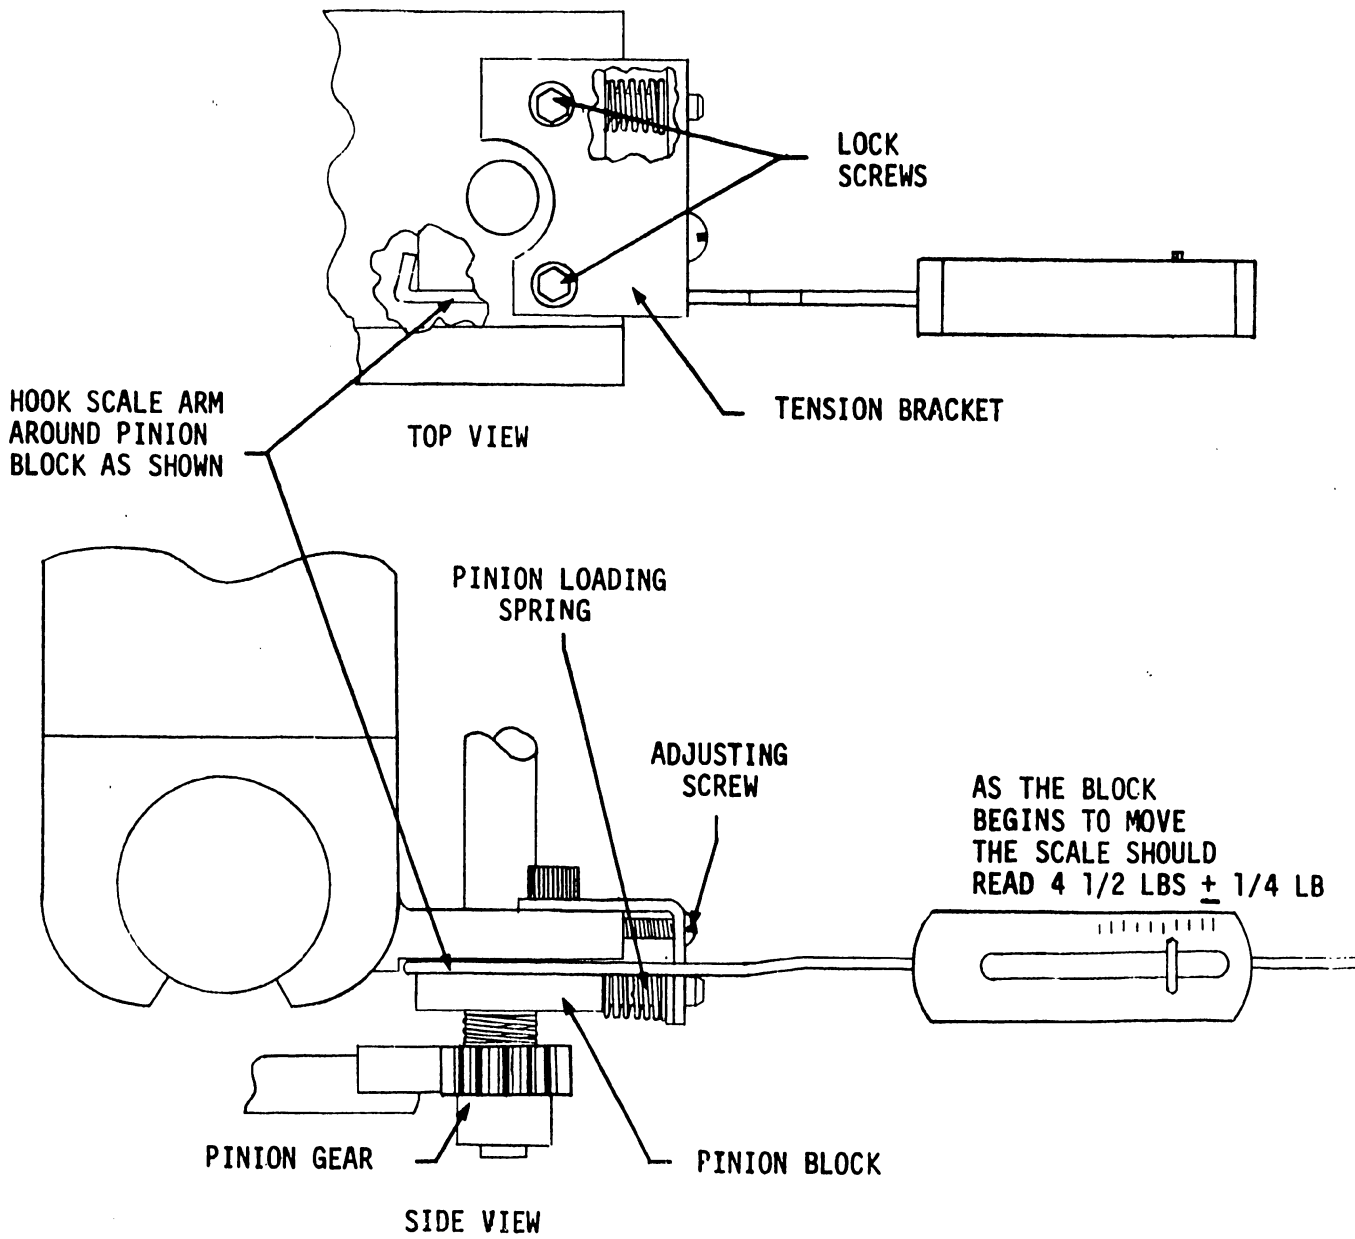

FIGURE 20
- 1) When pulling on the pinion block with a spring scale, the block should begin moving at 4.5 lbs.  $\pm$  .25 lb. See Figure 20.